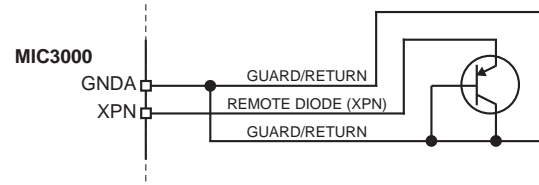

Figure 34. Guard Traces and Kelvin Return for Remote Thermal Diode
3. When using the MIC3000 to sense the temperature of a processor or other device which has an integral thermal diode, connect the emitter and base of the remote sensor to the MIC3000 using the guard traces and Kelvin return, shown in Figure 34. The collector of the remote diode is typically inaccessible to the user on these devices.